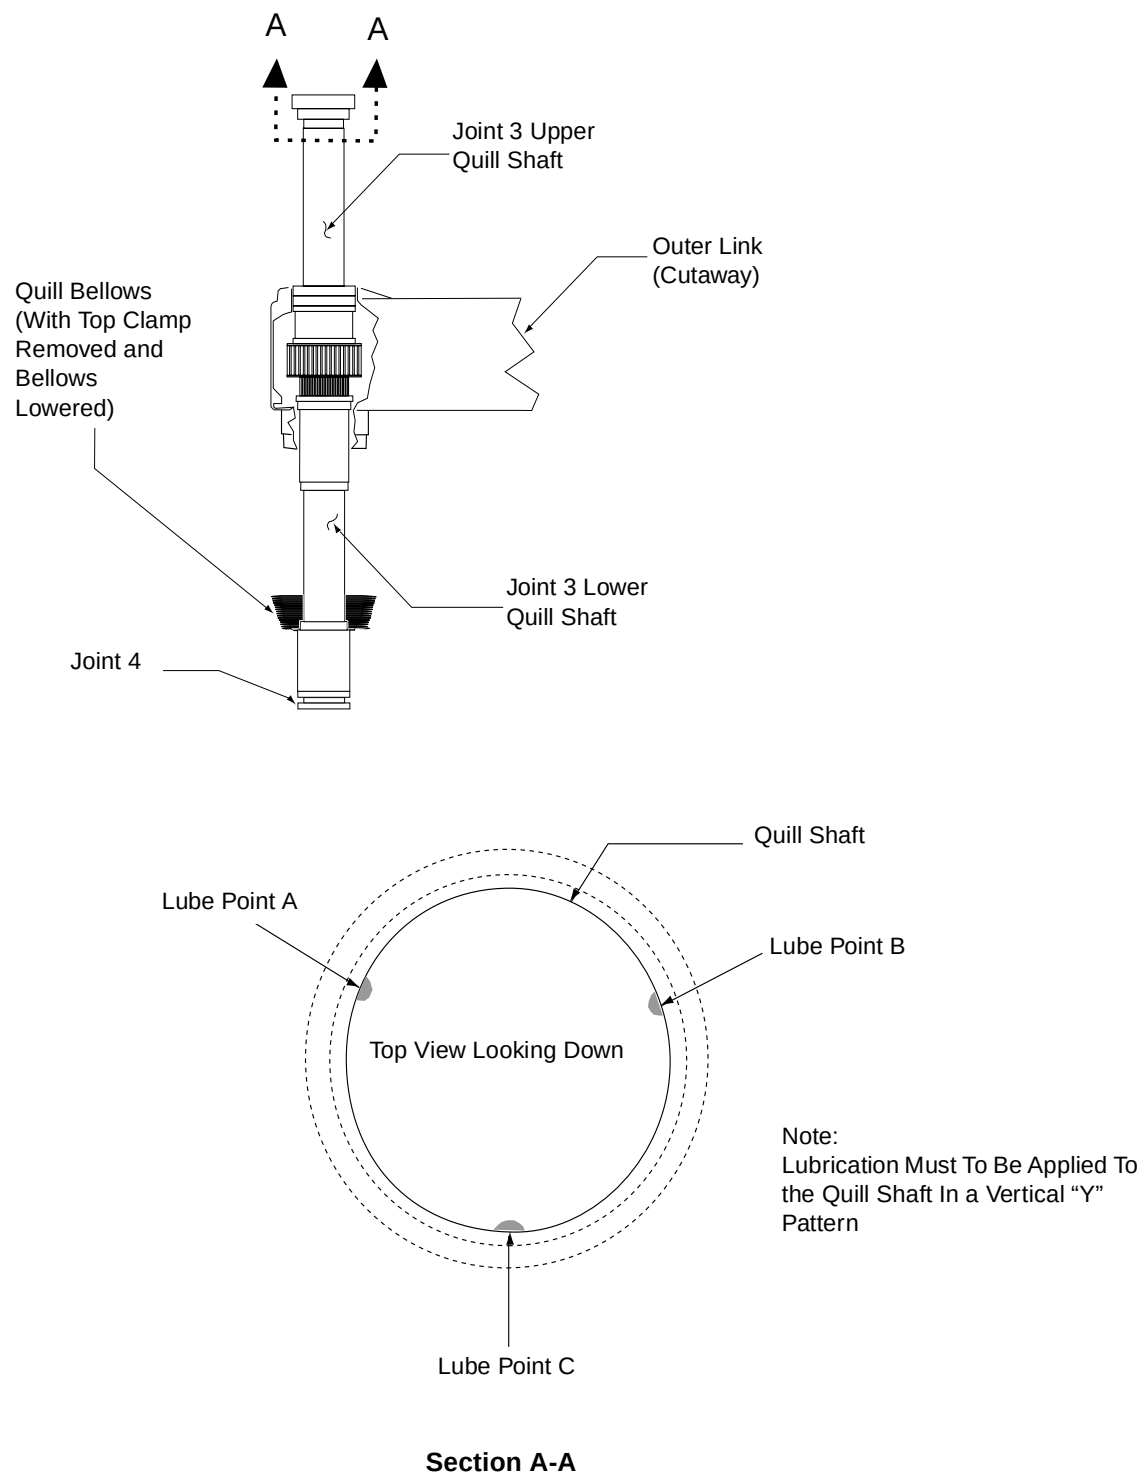

Figure 10-3. Joint 3 Upper Quill Shaft Lubrication
3. Loosen and remove the top clamp on the bellows using a flat-bladed common screw driver. Then slowly and gently pull down on the bellows until the bellows are fully compressed. See Figure 10-3 on page 227.